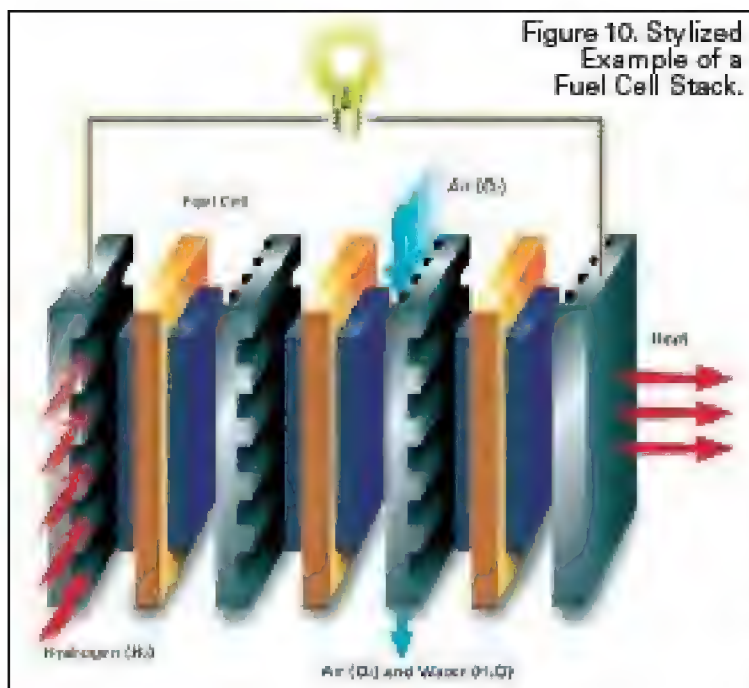

Figure 10. Stylized Example of a Fuel Cell Stack.
Now that you know what an individual fuel cell is capable of and how it performs, it's time to learn a little about fuel cell "stacks." That is, combinations of multiple fuel cells wired in series and parallel for more voltage and current capability (**Figure 10**). Again, this is like hooking up batteries or solar cells but with
The next step in our AxMate project is to construct a small adapter that includes the circuitry we just used to test the FTDI cable. The schematic for our AxMate adapter is shown in **Figure 7** and **Figure 8** contains the parts list (as usual, all the parts are available on my website; www.jrhackett.net). The stripboard layout is shown in **Figure 9** and **Figure 10** is a close-up photo of the completed adapter. Before we begin construction of the AxMate adapter, I
need to clarify a couple of points. First, as you can see in the photo, the switch that I used is a little larger than the one that’s included in the layout which results in it extending slightly beyond the boundaries of the stripboard. I built an early prototype using a smaller switch, but it was difficult to use so I decided to go with the larger one shown in **Figure 10**.
11. Place the inverted 4x4 piece of stripboard on the short ends of the header pins so that the pins protrude through the end holes of each trace (see **Figure 10**).